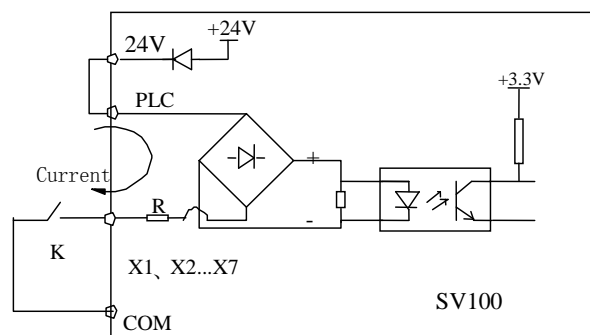

Fig.4-7 Wiring method of using the internal 24V power supply
SV100 multi-function input terminal uses a full-bridge rectifying circuit as shown in Fig.4-7. PLC is the common terminal of terminals X1~X7, The current flows through terminal PLC can be pulling current and the feeding current. Wiring of X1~X7 is flexible and the typical wiring are as follows:
1) Analog differential voltage input, the wiring is as in fig.4-7.